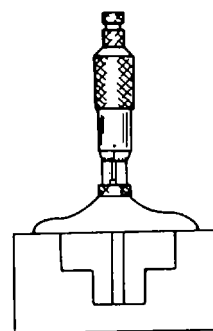

Figure 3-48. Micrometer Depth Gauge
(2) *Micrometer depth gauge.* The micrometer depth gauge, shown in figure 3-48, consists of a flat base attached to the barrel of a micrometer head. These gauges have a range from 0 to 9 inches, depending on the length of extension rod used. The hollow micrometer screw itself has a range of either 1/2 or 1 inch. Some are provided with a ratchet stop. The flat base ranges in size from 2 to 6 inches. Several extension rods are normally supplied with this type of gauge.